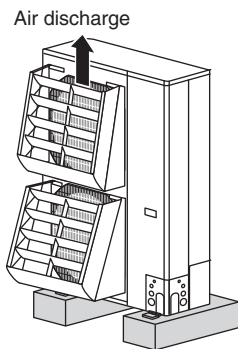

Fig. 2-6
- the air discharge outlet is facing a sidewalk and discharged hot air may annoy passers-by. Refer to Fig. 2-6.